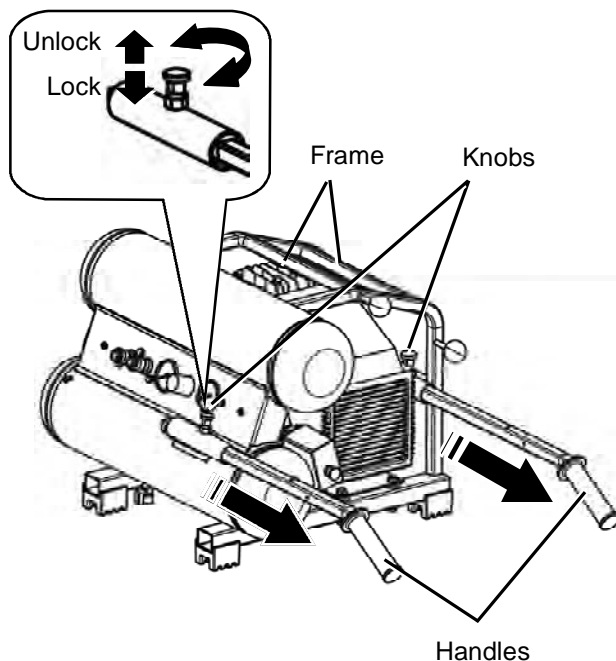

Fig.8
1. Keep one hand on a frame and sliding two handles out, and lock two handles with two knobs on the frame (Fig.8). Pull up two handles, to move the knob towards the direction for locking, and two handles will lock. If two handles do not lock, turn the knob to lock it.